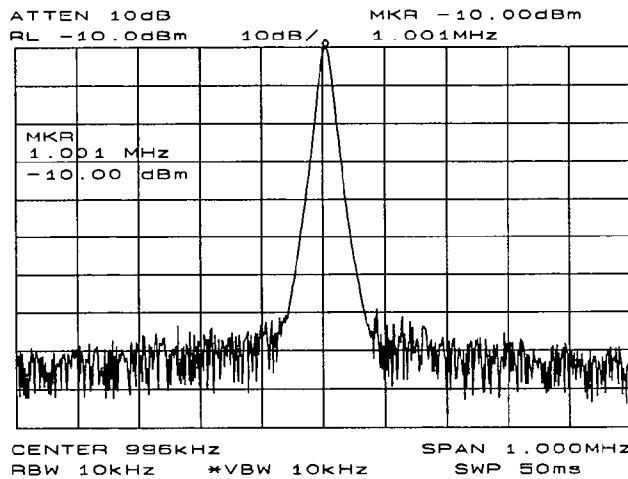

Figure 3-5. Input Signal Displayed in a 1 MHz Span
1. Using the present setup, clear the markers from the screen by pressing **MKR**, then **MARKERS OFF**. Notice that when **MARKERS OFF** or **HOLD** is pressed, the display expands to the full size of the screen, for easier viewing. To measure the fundamental, press **PEAK SEARCH**, which activates a marker on the highest-level signal on-screen. Reduce the frequency span to 1 MHz by pressing **SPAN**, then **SPAN ZOOM** and entering 1 MHz. The span zoom function allows you to quickly “zoom” to a narrower frequency span without losing the signal from the screen (since signal track is activated). After the frequency span is reduced, turn off the signal-track function by pressing **MKR**, and setting **SIG TRK ON OFF** to OFF. Next, set the center-frequency step-size to the frequency of the fundamental by pressing **MKR ->**, then **MARKER -> CF STEP**. For better amplitude accuracy, move the signal to the top of the graticule by pressing **MARKER -> REF LVL**. The resulting display should resemble Figure 3-5.